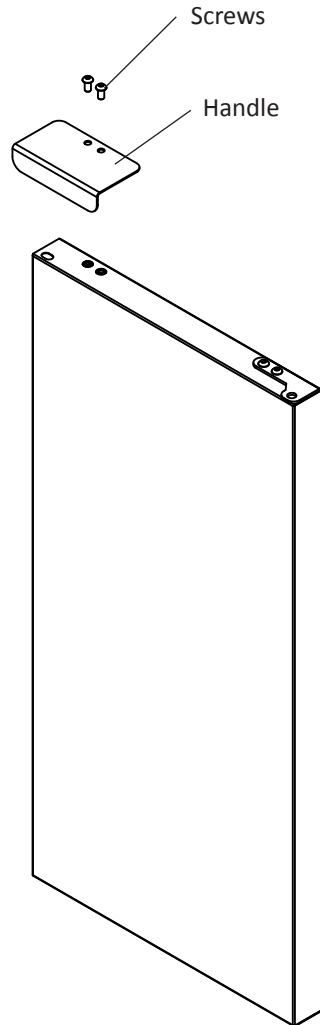

Figure 5
1. Remove the handle, (2) screws, and 5/32" allen wrench from the bag shipped inside the cabinet.
2. Locate handle opposite the hinges and secure in place using the (2) screws and the allen wrench. (See Figure 5).